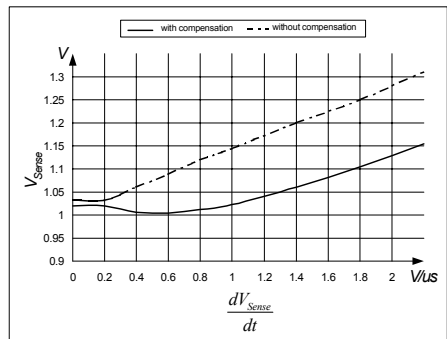

Figure 18 Overcurrent Shutdown
So current limiting is now capable in a very accurate way (see Figure 18).
E.g.  $I_{peak} = 0.5A$  with  $R_{Sense} = 2 \Omega$ . Without propagation delay compensation the current sense threshold is set to a static voltage level  $V_{csth}=1V$ . A current ramp of  $dI/dt = 0.4A/\mu s$ , that means  $dV_{Sense}/dt = 0.8V/\mu s$ , and a propagation delay time of i.e.  $t_{Propagation Delay} = 180ns$  leads then to a  $I_{peak}$  overshoot of 12%. By means of propagation delay compensation the overshoot is only about 2% (see Figure 18).